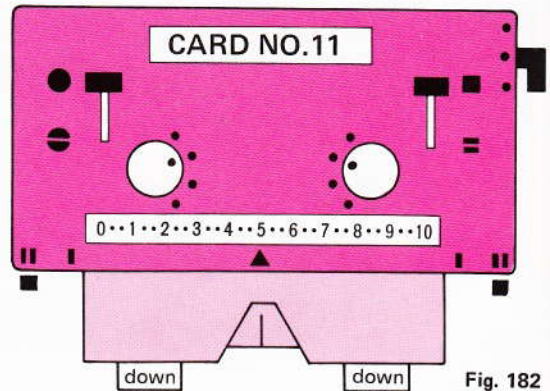

Fig. 182
3. — Set carriage as in fig. 182 :